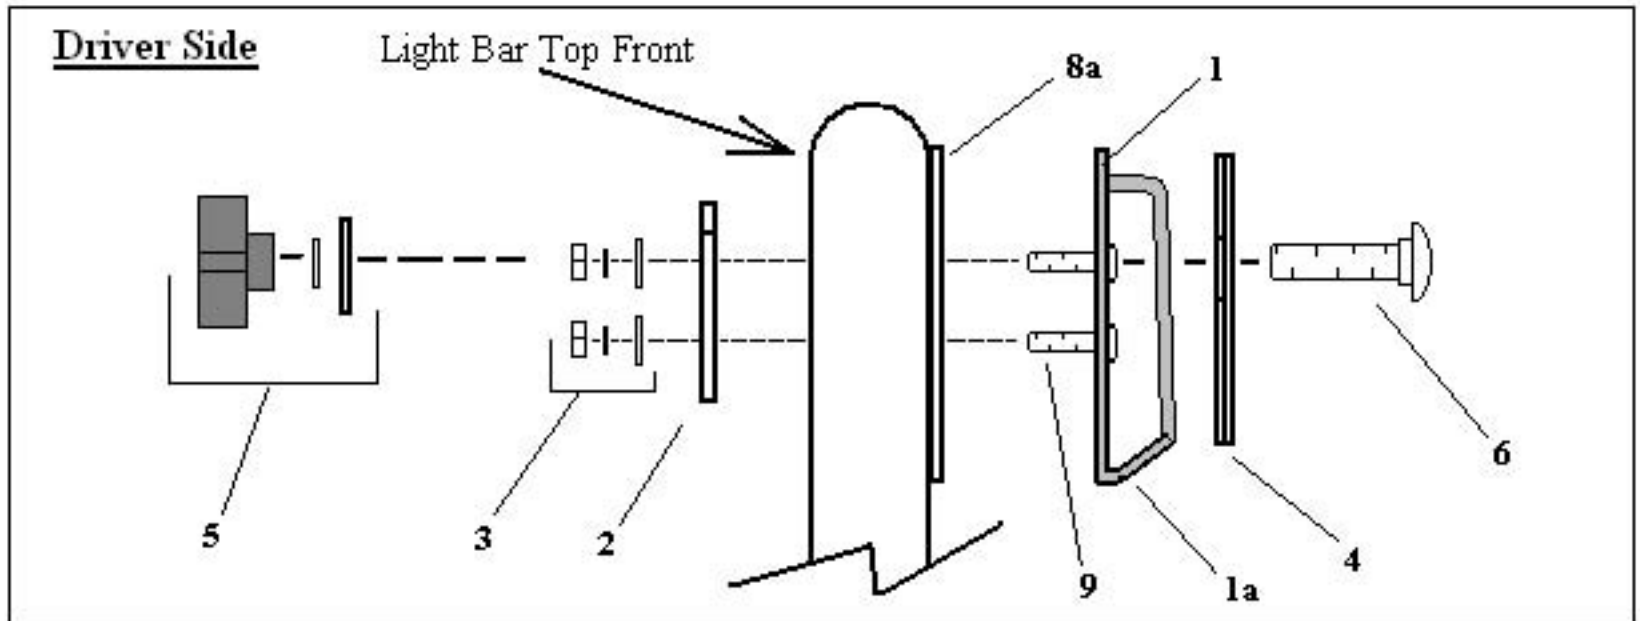
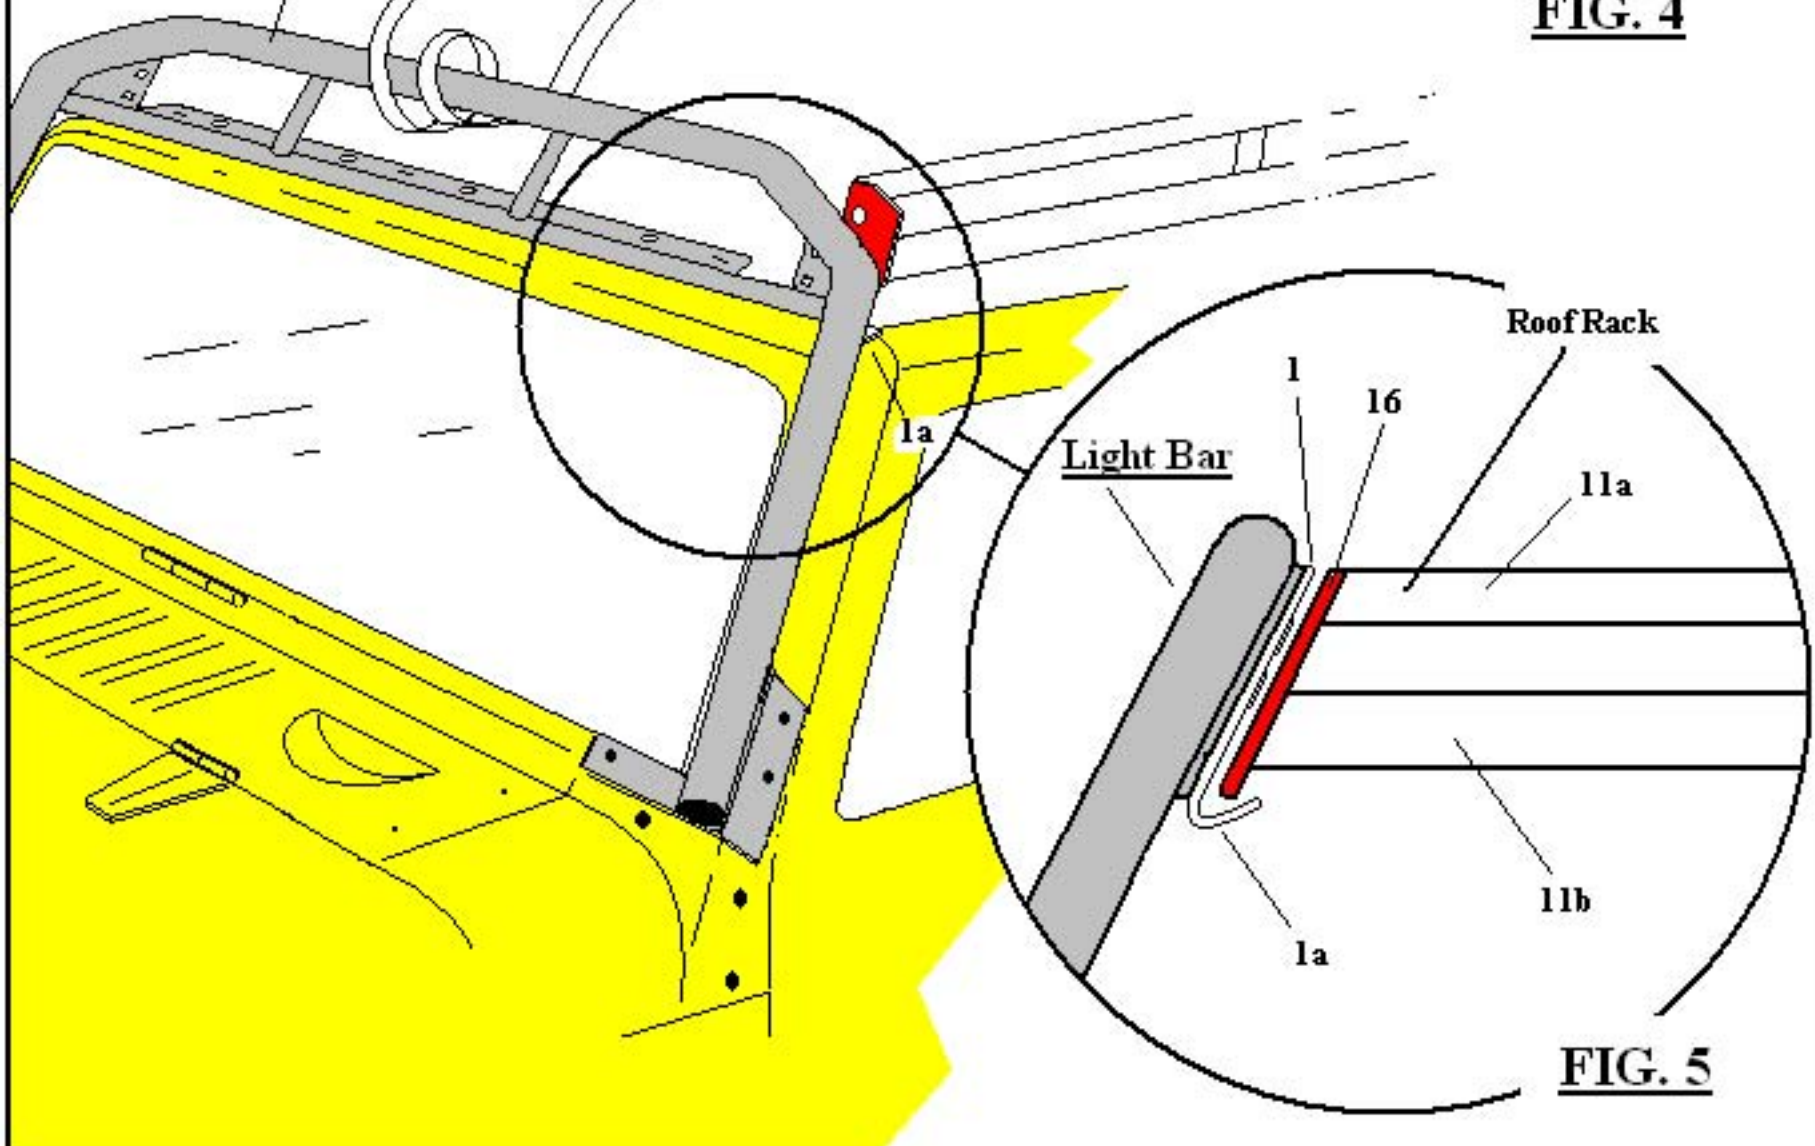

FIG. 2
FIG. 5
- 6- Refer to page 4 Fig. 2 and Fig. 3 begin attaching Driver side "Quick Release" saddle (1) by sliding both screws (9) through square holes located on the Light Bar Driver side plate (8a) as shown in Fig. 3. Place clamp (2) as shown onto front side of Light Bar plate (8a) and over "Quick Release" saddle screws (9). Continue by using the 5/16" nuts, lock washers and flat washer (3) previously removed over clamp (2) and onto screws (9) snug down only at this time.
- 7- Refer to page 5 **Step 1** while working on the driver side place safety plate (4) onto "Quick Release" saddle (1) as shown then refer to page 4 Fig. 2 and assemble the 3/8-16 carriage bolt (6) through safety plate (4) then through "Quick Release" saddle (1). Place the 3/8 hard washer, lock washer and finally hand knob (5) in place and tighten but not fully.
- 8- Refer to page 5 **Step 1** place Safety pin (7) towards the front side of the light bar over the lower cross bar (8c) as shown to prevent any potential interference. Continue now to the passenger side and attach the passenger "Quick Release" saddle in the same manner.
- 9- Refer to page 6 Fig. 5 and with the help of another person gently lower the roof rack so that plates (16) of the roof rack rest into the saddle hooks (1a) of the "Quick Release" saddle (1) both passenger and driver sides.
- 10- Refer to page 5 **Step 2** guide the two round bolt holes (10) in plate (16) of the roof rack over and onto the bolt heads (9) of the "Quick Release" saddle (1) as shown in **Step 2**. While holding the roof rack in place over bolt heads (9) fully loosen the hand knob (5) *not shown* holding safety plate (4) in place then lift and swing safety plate (4) horizontally as shown in **Step 2** and **Step 3** in the direction of letters B,C and D. Continue as shown in **Step 4** by sliding safety plate (4) horizontally under roof rack tubing (11 a) and over roof rack tubing (11 b) finally aligning safety pin holes (4a) of the safety plate (4) and "Quick Release" saddle (1). Fully tighten hand knob (5) as shown on page 4 Fig 2 then apply the same procedure to the opposite side.
- 11- Refer to page 5 **Step 4** and thread safety pin (7) through the aligned holes (4a) of both the Safety plate (4) and "Quick Release" saddle (1) then place spring over the top of the safety pin to prevent release.
- 12- Refer to page 4 Fig 2 while the roof rack is held in place by the "Quick Release" saddles (1), Safety plates (4) and hand knobs (5) fully tighten nuts (3) **"DO NOT BEAR DOWN WITH ALL YOUR MIGHT"** use only enough force to flatten lock washers and apply some tension. Double check that both hand knobs (5) are fully tightened.